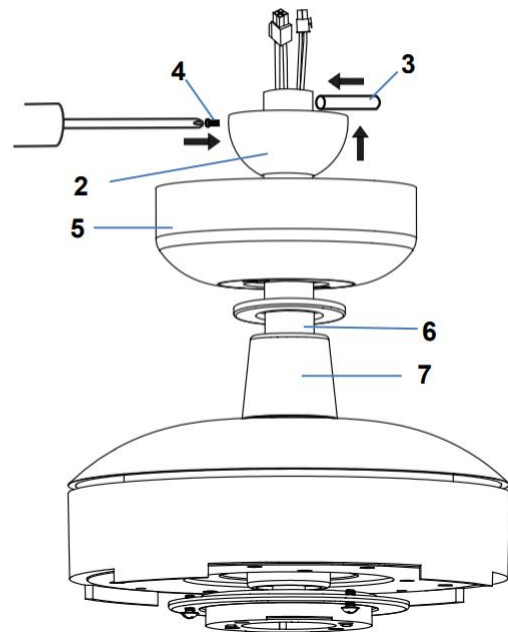

Fig. 4.6
7. Insert the canopy (5) over the down rod (6) and install the ball joint (2) and dowel pin (3) back onto the down rod (6) and secure by tightening the set screws (4). (Fig. 4.6)